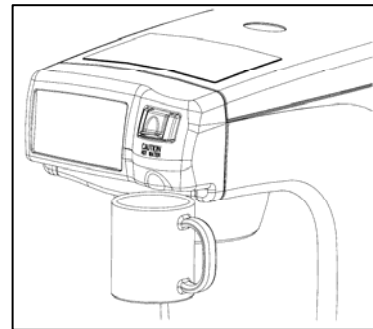

Figure 4
1. Place an empty cup directly under the non-textured bump out located directly under the *CAUTION HOT WATER* label (see figure 4).